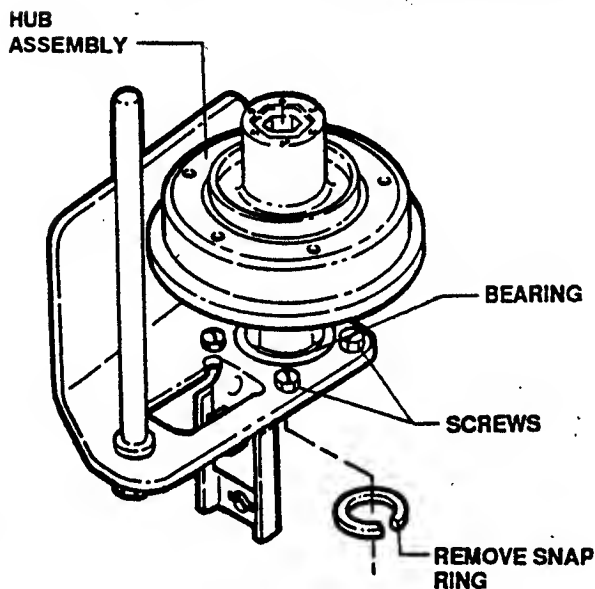

FIGURE 3.18
1. Remove snap ring. See Figure 3.18.